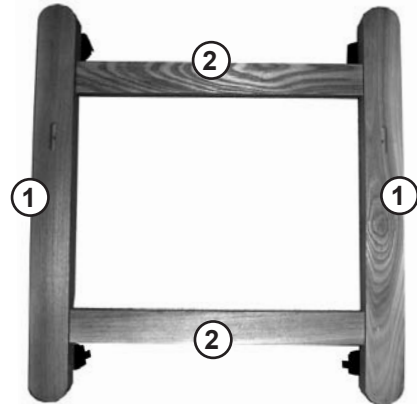

FIG 4
STEP 4. Turn your base assembly over onto the castors and you should now have a base that is assembled like FIG 4.